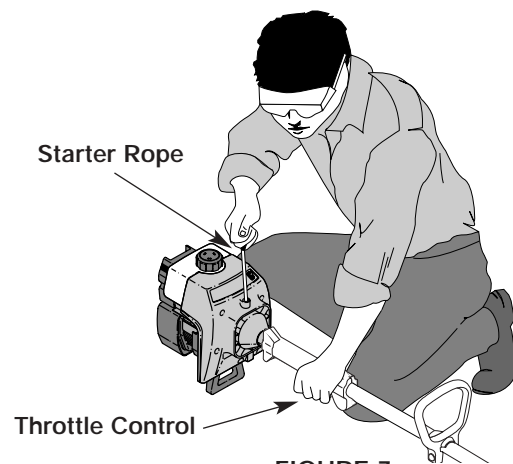

FIGURE 7
WARNING: Avoid accidental starting. Make sure you are in the starting position when pulling the starter rope, Figure 7. To avoid serious injury, the operator and unit must be in a stable position while starting.
5. Crouch in the starting position (Figure 7) and squeeze the throttle control. Pull the starter rope briskly 5 times (with the choke lever still in Position 1).